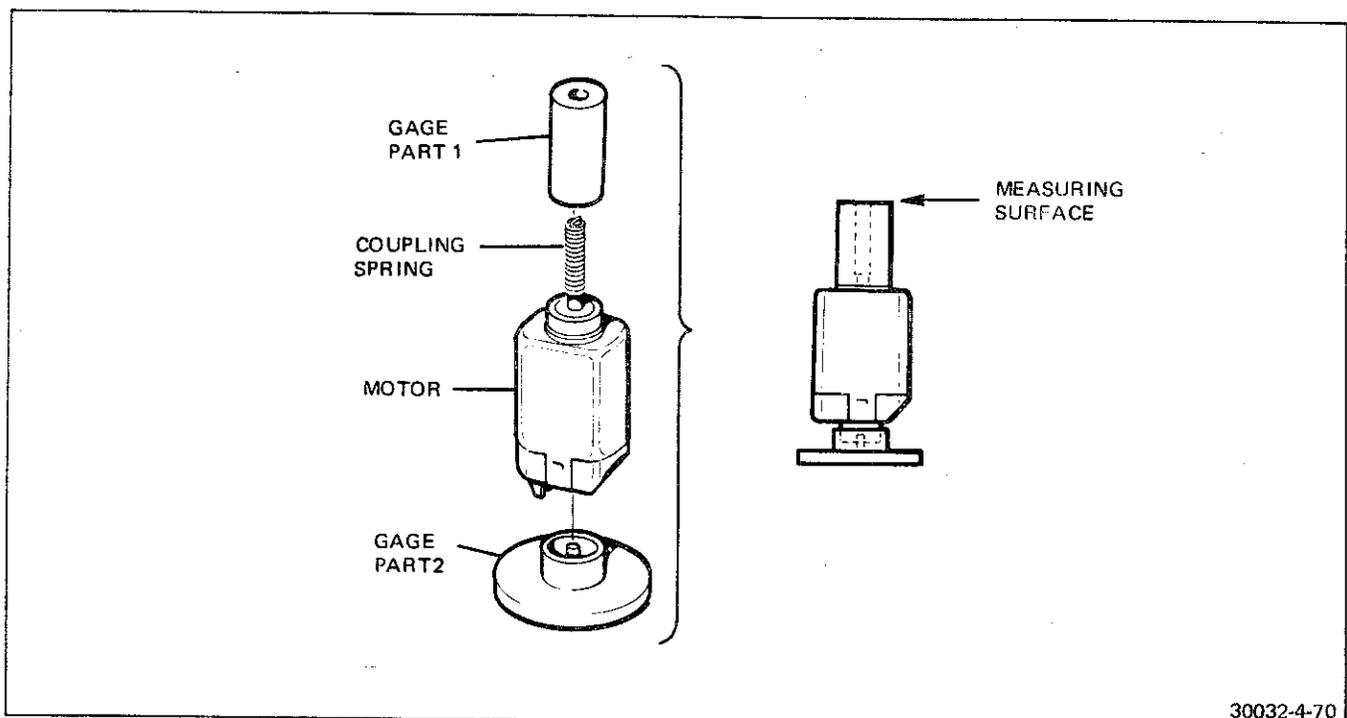

FIGURE 4-70 FLEX COUPLING GAGE
- Before installing the motor, it is imperative that the coupling spring position be critically checked. Use the flex coupling gage (Special Tool #11679). Place the gage as shown on Figure 4-70. The end of the coupling spring should be flush with the end surface of the gage. If the spring extends beyond the gage, leave the motor on the bottom (support) end of the gage. Lift off the upper half of the gage and use a jeweler's screwdriver to move the spring further onto the shaft. If the spring does not reach the end of the gage, remove the gage and, using a jeweler's screwdriver, work the spring further from the motor flange.